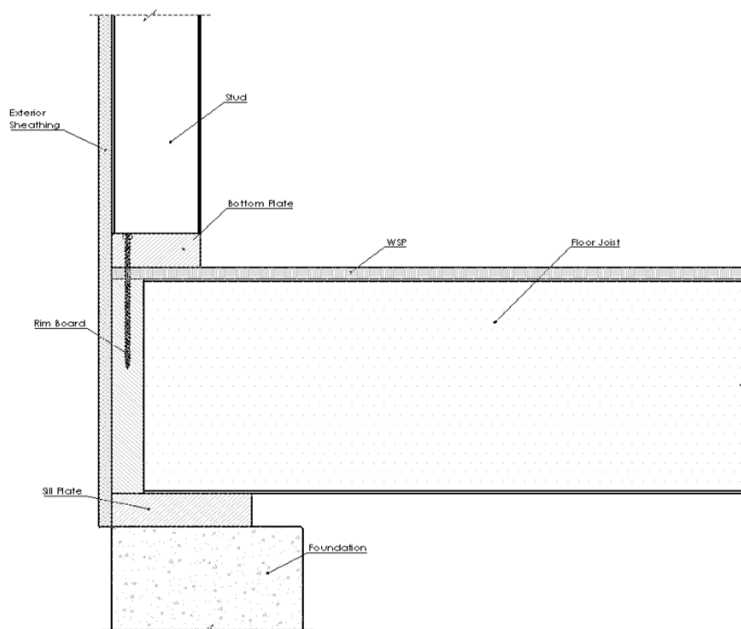

Figure 12. Fastener in Bottom Plate to Rim Board Connection
- 2.8.1 Install CAMO Series #14 x 6" Truss Screws or CAMO Series #14 x 4 $\frac{1}{2}$ " Truss Screws downward and perpendicular to the face of the wall bottom plate, a minimum of $\frac{1}{2}$ " from the outside face of the wall, through the plate and into the rim board/ribbon board (see Figure 12).